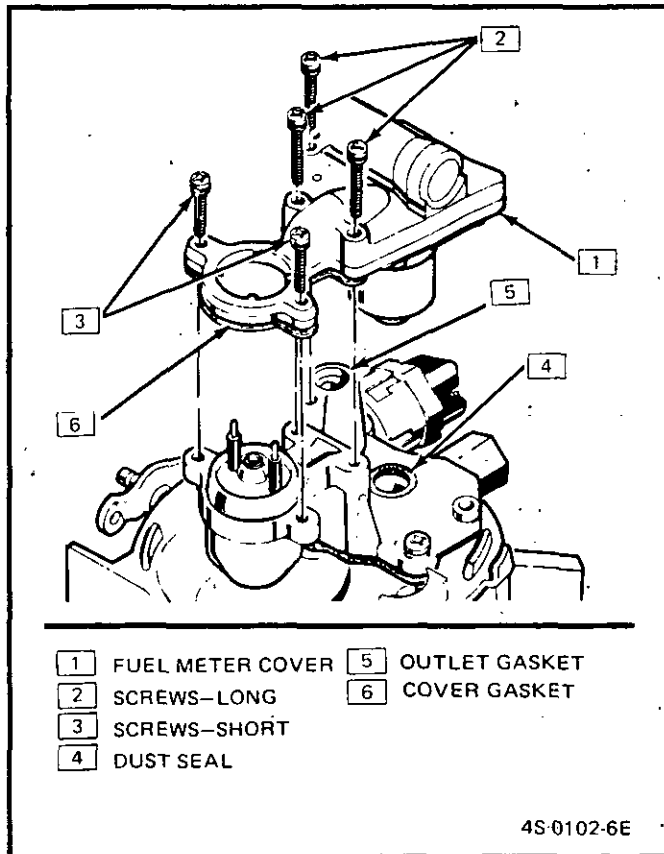

Figure C2-9 - Fuel Meter Cover Removal
3. Fuel meter cover (see Fuel Meter Cover procedure, and Figure C2-9).
3. Five screws and lockwashers securing fuel meter cover to fuel meter body. Notice location of two short screws (Figure C2-9).
1. New dust seal (Figure C2-9, 13C), into recess on fuel meter body.
- Fuel meter cover, making sure pressure regulator dust seal and cover gaskets are in place; then, apply a thread locking compound to threads on the fuel meter cover attaching screws (five). Install fuel meter cover attaching screws and lockwashers and torque to 3.0 N.m (28 in. lbs.). Two short screws go next to the fuel injector (Figure C2-9).
6. Install tool J-33047 in idle air passage of throttle body. Seat tool in air passage until bottomed and no air leaks exist. (See Figure C2-9).